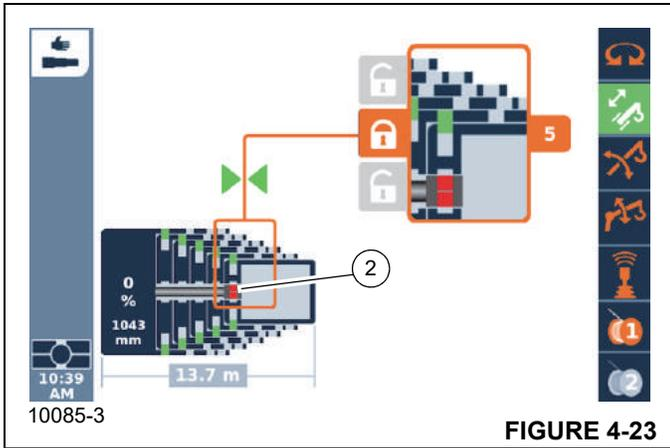

FIGURE 4-23
2. Confirm the selection – the telescope cylinder locking pins (2, Figure 4-23) will retract.